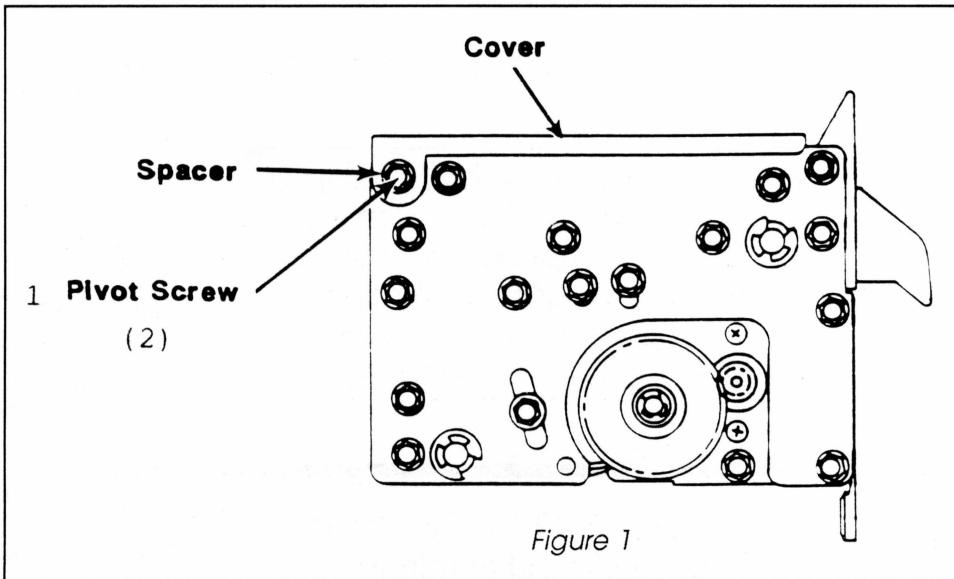

Figure 1
Set the BT in front of you with the bill input away from you. As you disassemble the BT, arrange the screws and shafts in the order you take them off. This way if you get lost, you can retrace your steps. Follow these steps as you refer to Figures 1 & 2:
- a) Remove Pivot Screws with Spacers (Figure 1, step 1) and remove Top Cover.